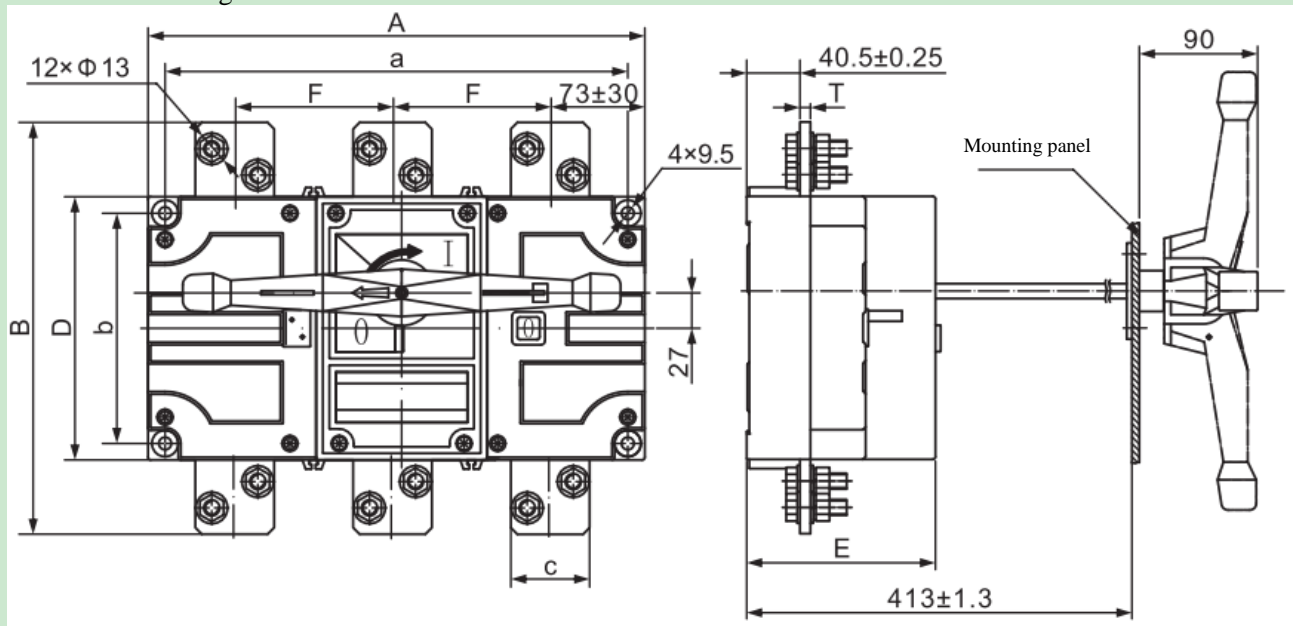

Fig. 13 Installation dimension drawings of HGL, HGLi – 1000 (800) ~ 1600 series switch disconnector out of the cabinet
6.9 The installation dimensions of HGL, HGLi – 1000 (800) ~ 1600 series switch disconnector out of the cabinet are illustrated in Fig. 13 and Table 5.